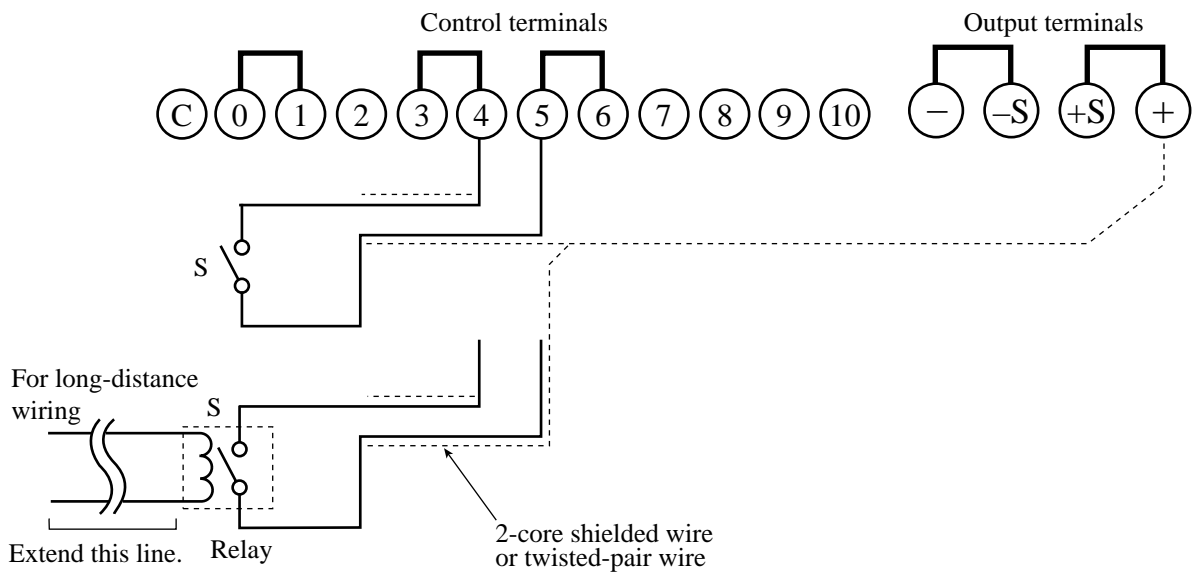

Fig. 4-10 Connection for output ON/OFF control (II)
2. Connect a contact S (switch) across the control terminal 4 and 5 as shown in Fig. 4-10.